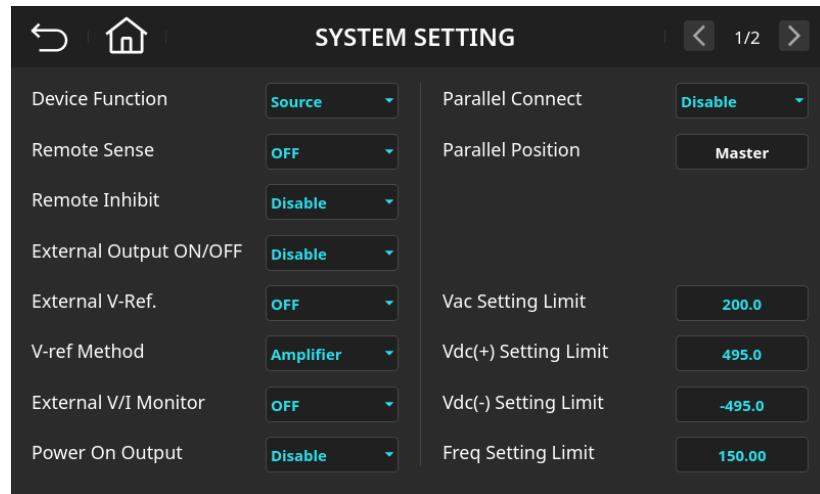

Figure 6-12 System Function Settings Page (Vac Setting Limit = 200.0)
- Enter 2, 0, 0, then press the Enter key **Enter**; the value will update to "200.0", as shown in Figure 6-12.